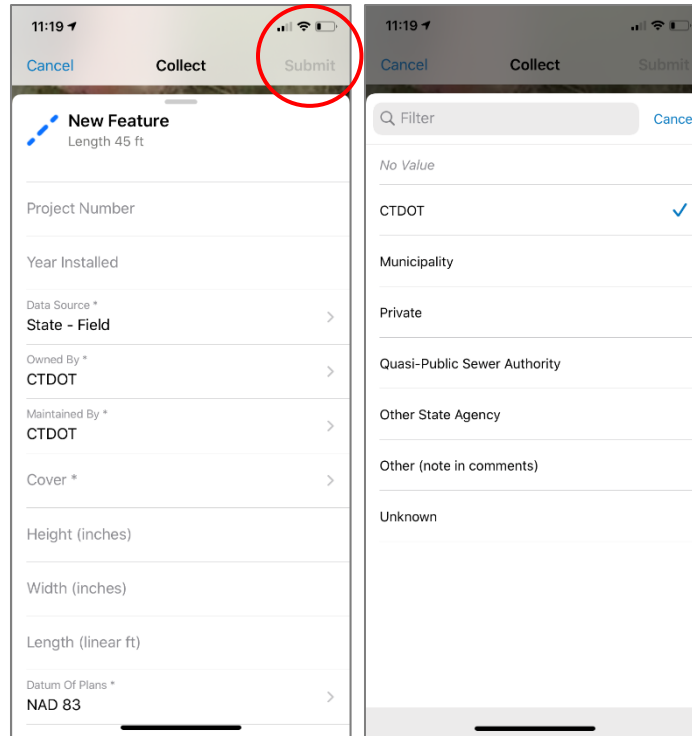

Figure 43. Saving a new feature in the ArcCollector app.
4. To save the new feature click “Submit” and the changes will be committed to the map (Figure 43, below).